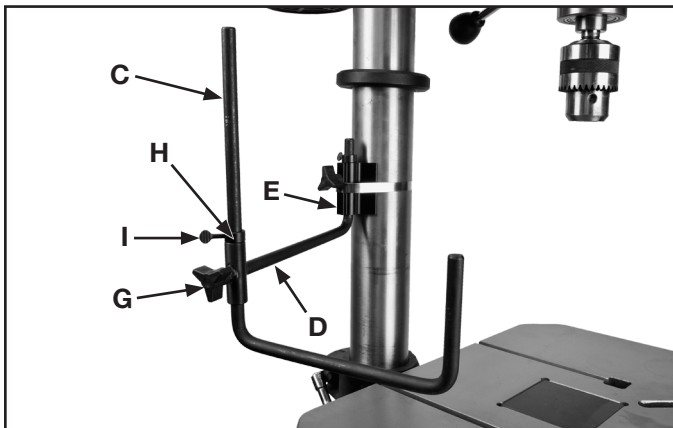
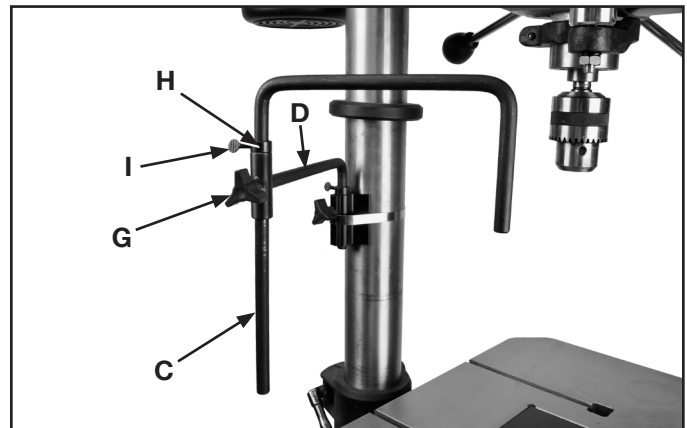
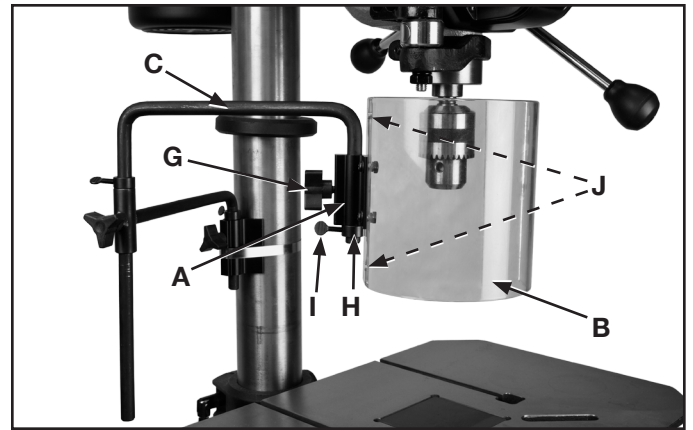

Fig. 6
Fig. 7
Fig. 8
4. The long end of arm (C) Figs. 6 and 7, can be inserted into hole in end of column arc (D) from the bottom, as shown in Fig. 6, or from the top, as shown in Fig. 7. In both cases make sure the locking collar (H) and thumb screw (I) is positioned on top, as shown in Figs. 6 and 7.
5. Thread lock knob (G) Figs. 6 and 7, into hole in end of column arc (D) to lock arm (C) in position.
6. Assemble mounting bracket to guard with mounting bracket screw sets (I) (screw, flast washer, guard, lock washer then nut).
7. Assemble guard with mounting bracket (A) Fig. 8, to end of arm (C) and thread lock knob (G) into hole in mounting bracket to lock guard (B) in position.
8. Assemble locking collar (H) and thumb screw (I) to arm (C), as shown in Fig. 8. **NOTE:** Four holes, two of which are shown at (J) Fig. 8, are provided in the guard enabling you to position the guard in three different positions on the mounting bracket.